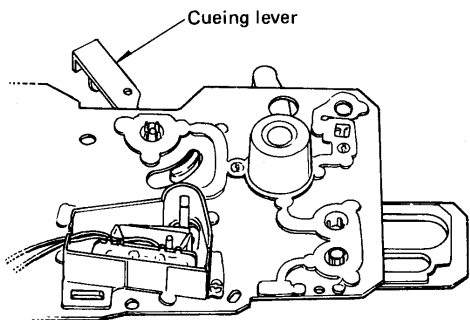

Fig. 8
- (2) Shift the cueing lever of the mechanical plate to the "cueing up" position. (Fig. 8)